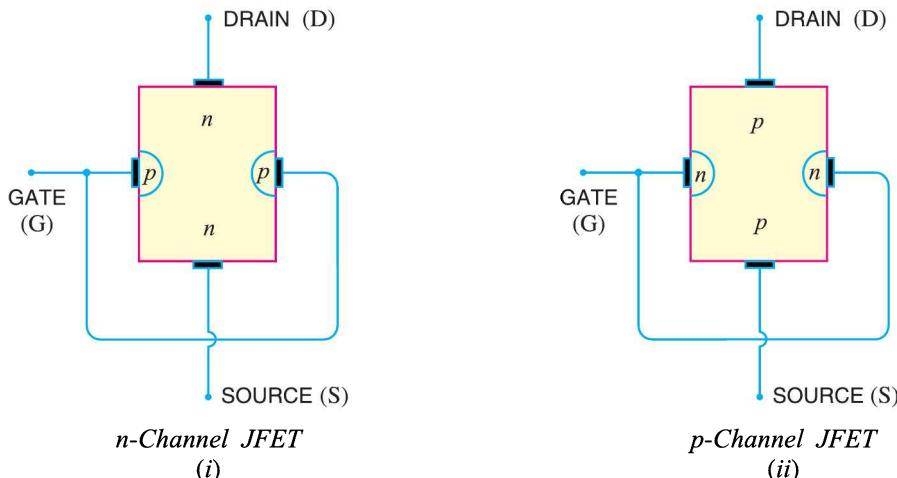

Fig. 19.1
Constructional details. A *JFET* consists of a *p*-type or *n*-type silicon bar containing two *pn* junctions at the sides as shown in Fig. 19.1. The bar forms the conducting channel for the charge carriers. If the bar is of *n*-type, it is called *n-channel JFET* as shown in Fig. 19.1 (i) and if the bar is of *p*-type, it is called a *p-channel JFET* as shown in Fig. 19.1 (ii). The two *pn* junctions forming diodes are connected *internally and a common terminal called *gate* is taken out. Other terminals are *source* and *drain* taken out from the bar as shown. Thus a *JFET* has essentially three terminals *viz.*, *gate* (*G*), *source* (*S*) and *drain* (*D*).
* It would seem from Fig. 19.1 that there are three doped material regions. However, this is not the case. The gate material surrounds the channel in the same manner as a belt surrounding your waist.